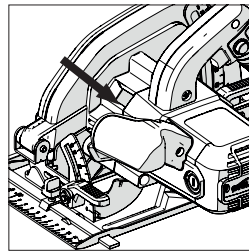

Fig. 3
- Locate the machines arbor lock button (which is similarly positioned on all machines). Lock the machines arbor by operating the arbor lock button. (**Fig. 3**)